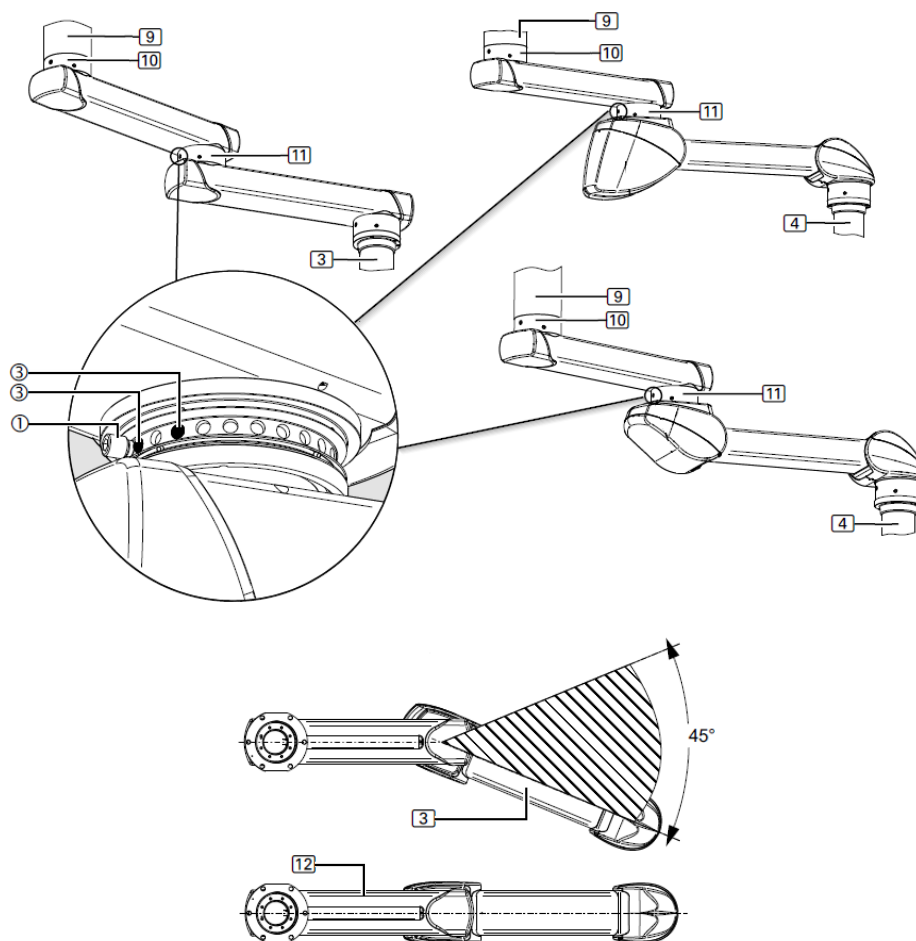

Fig.62 Double double arm system and friction bearing between arms
When adjusting the end stop as illustrated in Figure 62, the dead centre area is 45°. This means that the spring arm (3) has a maximum range of movement of approx. 315°. If the minimum setting on the end stop is not defined while adjusting the brakes on the intermediate bearing (11) and the ceiling